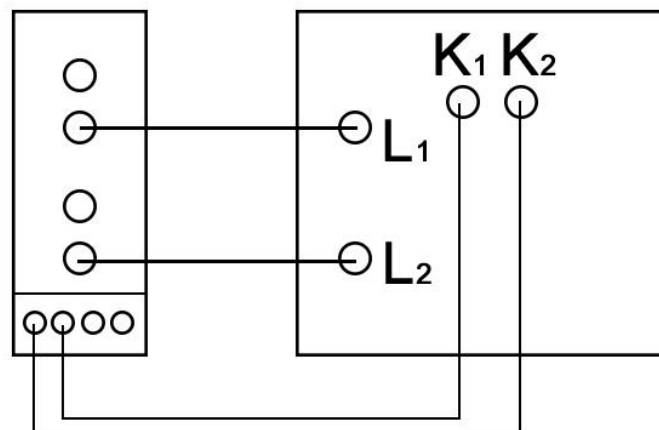

Figure 3. CT test wire
2. Before the power line is connected, first turn the "current regulation" handle counterclockwise to the zero position. The current output terminals "L1, L2" are connected to the primary side of the measured current transformer, and the secondary side of the measured current transformer is connected to "K1, K2".(Figure 3)